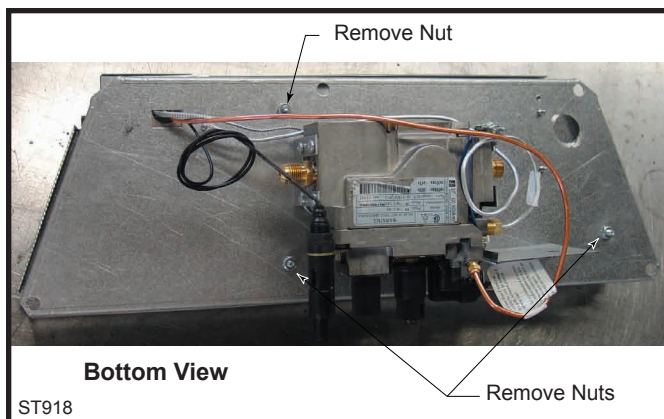

Fig. 72 Remove three (3) nuts securing ember bed in place.
1. Remove three (3) 3/8" nuts on bottom side of burner pan. (Fig. 72)
2. Thread and tighten 3/8" nuts back onto pem studs on underneath side of control panel, reversing Step 1 shown in Figure 72.